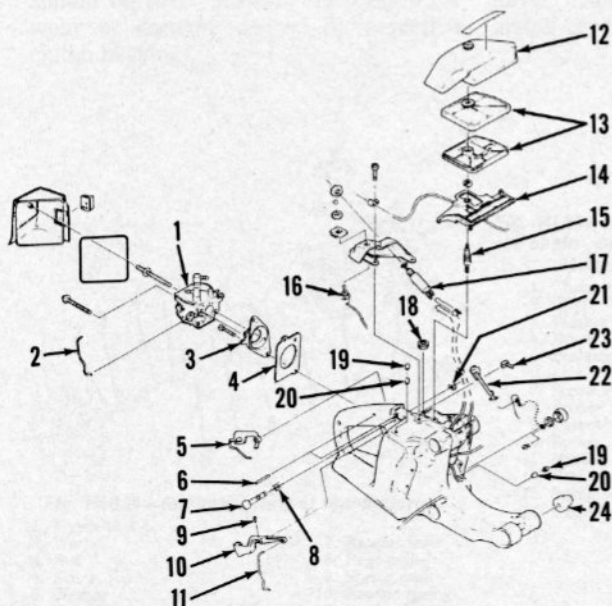

Fig. HL341—Exploded view of handle assembly.
Note check valve (20—Fig. HL341) and filter (19) which are used to vent fuel tank. Filter must be clean and valve must operate properly for required fuel flow to carburetor.